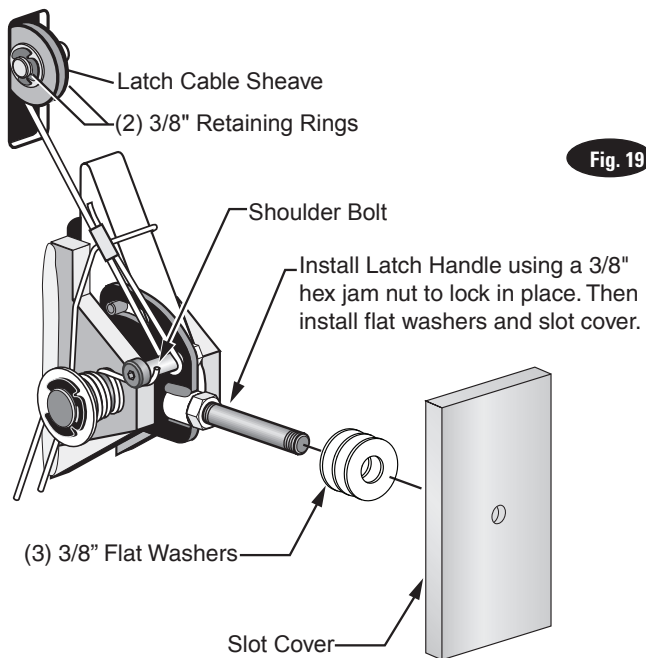
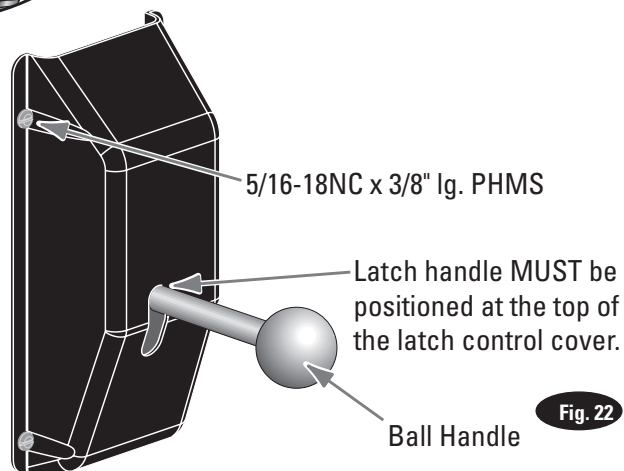

Fig. 19
Fig. 22
- Install latch cable sheave and retaining rings in upper slot of power unit column as shown, Fig. 19.
- Slip loop end of cable over end of shoulder screw on right side latch control plate, Fig. 19.
- Feed the other end of the cable through the latch cable sheave slot making sure that the cable is running under the bottom side of the latch cable sheave and inside the right column, Fig. 19.
- At this point you **MUST** install the latch handle, jam nut, and right column latch cover Fig. 19 & Fig. 22. Install latch handle ball, Fig. 22.